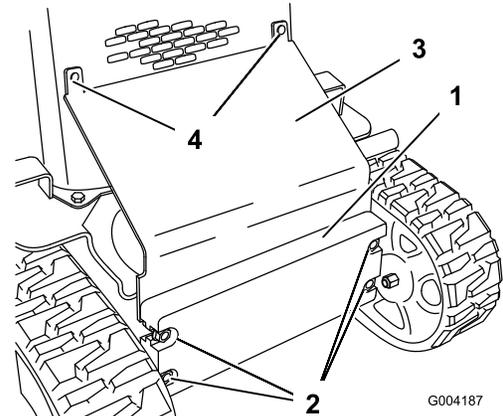

Figure 21
2. Loosen the bolts securing the front weight (Figure 21).
3. Remove the carriage bolts and nuts securing the heat shield (Figure 21).
10. Slide the heat shield between the frame and the front weight and secure it to the front screen grill using the carriage bolts and nuts removed previously (Figure 21).
11. Tighten the bolts securing the front weight (Figure 21).